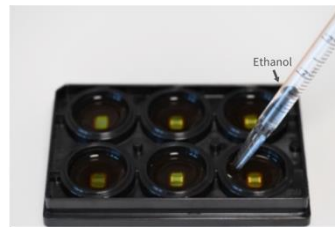

Figure 2. Filling the Wells of MaxTwo Multi-Well Plate with 70% Ethanol
- Fill each well and each compartment of the MaxTwo Multi-Well Plate with 70% ethanol (see Figures 2 and 3).
- Keep the MaxTwo Multi-Well Plate inside the 5% CO₂ incubator at 37°C, relative humidity (RH) >95%, for **2 days.**